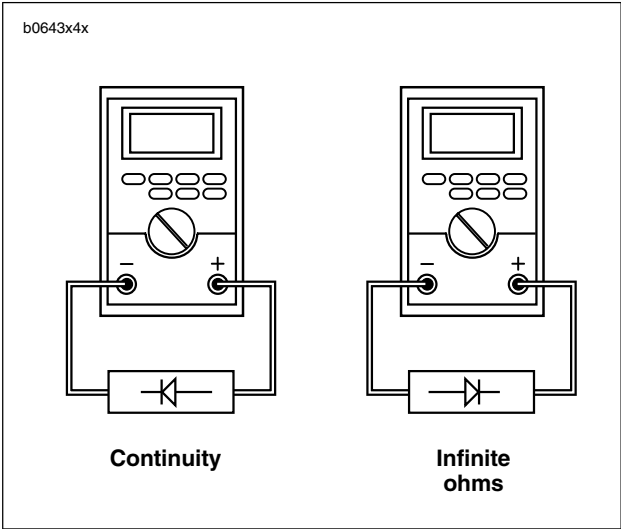

Figure 7-12. Ohmmeter Diode Test
- 1. Check diode with an ohmmeter as shown in Figure 7-12.